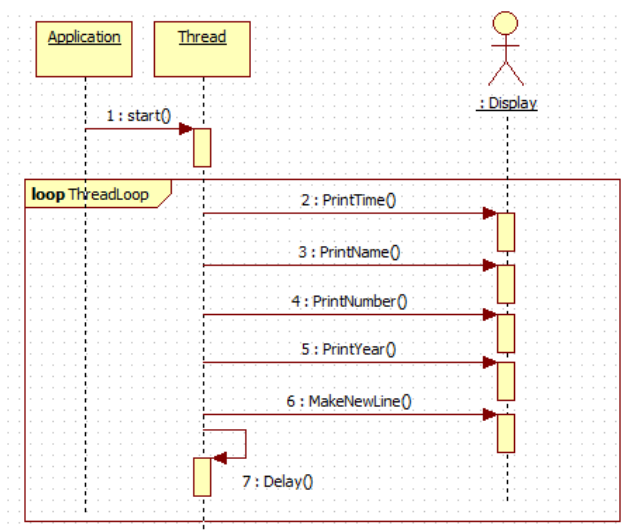

Figure 1.1: A System Sequence Diagram (SSD) for the application.
- Analyze the system based on the multitasking and real-time requirements, with focus on this application only. A System Sequence Diagram (SSD)¹ (Fowler & Scott 1997) of the application is shown in Figure 1.1. The real-time requirements will be any factor that may affect the running time of the tasks (threads). The real-time requirements involve tasks running in parallel, any common resources used by the application that will affect the timing and the time used by the application. **Hint:** the application consists of several tasks sharing one or several resources. Evaluate these common resources disregarding cpu and computer memory. Is the running time affected by sharing common resources? How to share such common resources in a multitasking system?